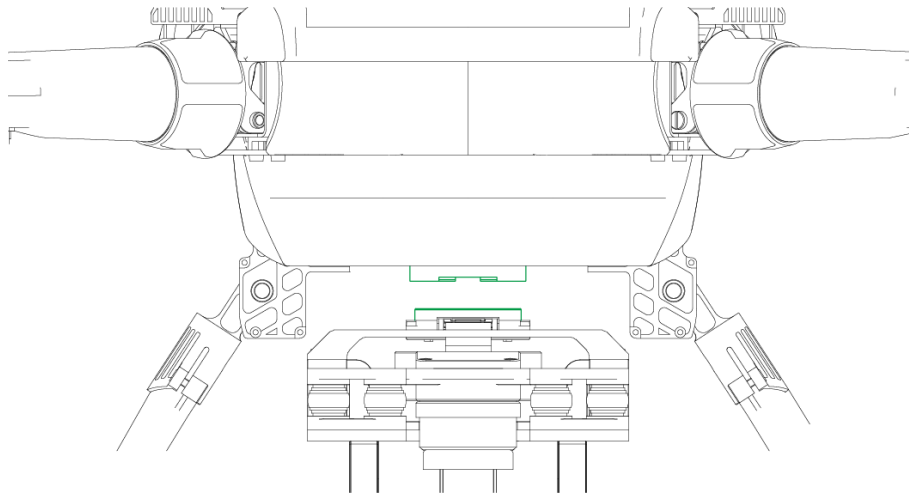

Figure 3-1
**Step 1** Insert data cable interface at the bottom of aircraft into the interface at the top of shock absorber board, as shown in Figure 3-1.